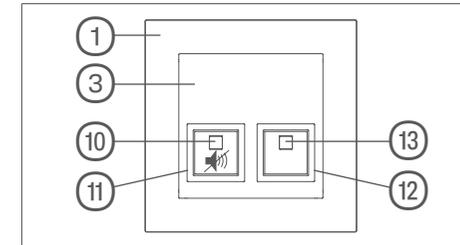

Figure 13: Duty room unit cover with frame
- Press the yellow mute button in the duty room (Figure 13, 11).